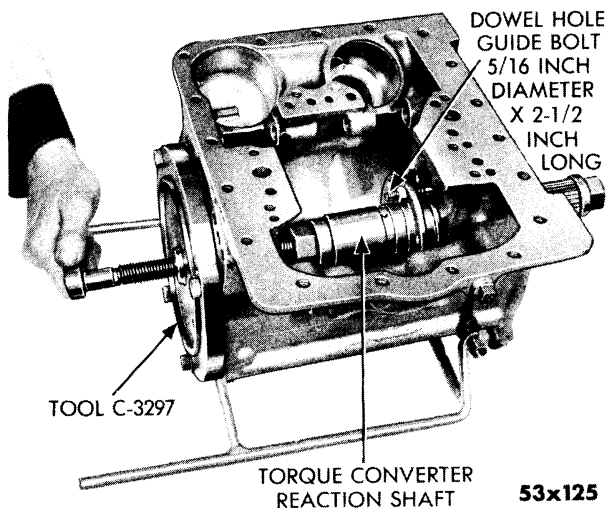

Fig. 102—Installation of Torque Converter Reaction Shaft
- (2) Coat portion of reaction shaft that presses into case, with MOPAR Lubriplate. Position torque converter reaction shaft in front of transmission case so that holes in shaft align with bolt holes in case.
- (3) Place a $\frac{5}{16}$ inch (.308 to .311 inch outside diameter in unthreaded section) $2\frac{1}{4}$ inch bolt through dowel guide pin holes in case and reaction shaft to act as guide. Install nut. Using Tool C-3297, press reaction shaft into place. (Fig. 102.) Do not remove $\frac{5}{16}$ inch bolt from dowel pin holes at this time.
- (4) Start the three transmission case-to-reaction shaft bolts and washers and tighten slightly, but do not torque.
- (5) Remove $\frac{5}{16}$ inch bolt from dowel pin hole and install the reaction shaft dowel from inside of transmission case.
- (6) Tighten transmission-to-reaction shaft bolts to 15 foot-pounds torque.
- (7) Coat new torque converter reaction shaft seal (neoprene) with MOPAR Lubriplate and install on shaft.